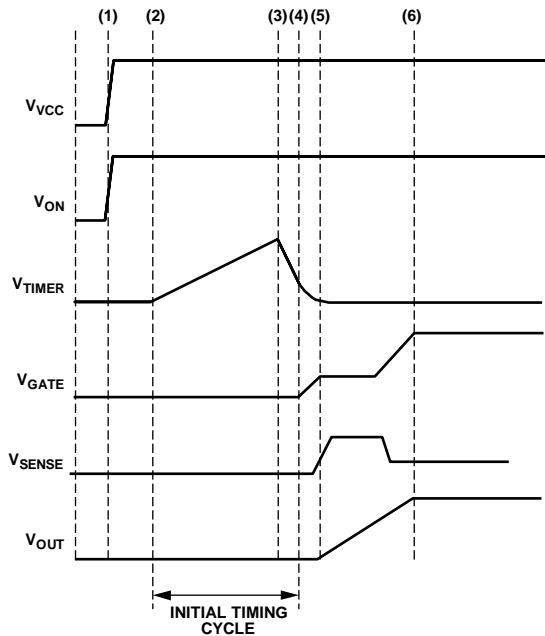

Figure 33. Startup (ON Asserts as Power Is Applied)
When VCC is first connected to the backplane supply, the internal supply (Time Point (1) in Figure 33) of the ADM1178 must be charged up. A very short time later (significantly less than 1 ms), the internal supply is fully up and, because the undervoltage lockout voltage has been exceeded at VCC, the device comes out of reset. During this first short reset period, the GATE pin is held down with a 25 mA pull-down current, and the TIMER pin is pulled down with a 100 μA current sink.
When the initial timing cycle terminates, the device is ready to start a hot swap operation (assuming the ON pin is asserted). In the example shown in Figure 33, the ON pin was asserted at the same time as VCC was applied, so the hot swap operation starts immediately after Time Point (4). At this point the FET gate is charged up with a 12 μA current source.